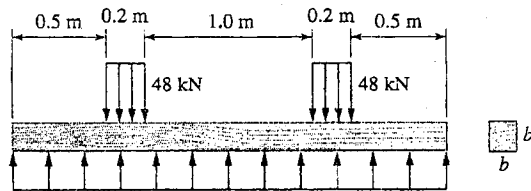

Fig. 2
2. As shown in Fig. 2, the square wood is used as a railroad tie. It carries two uniformly distributed loads, each totaling  $48 \text{ kN}$ . The reaction from the ground is uniformly distributed over the length of the tie. Determine the smallest allowable dimension  $b$  of the cross section if the maximum allowable bending stress is  $10 \text{ MPa}$  and the maximum allowable shear stress is  $1.2 \text{ MPa}$  in the wood tie. (25%)